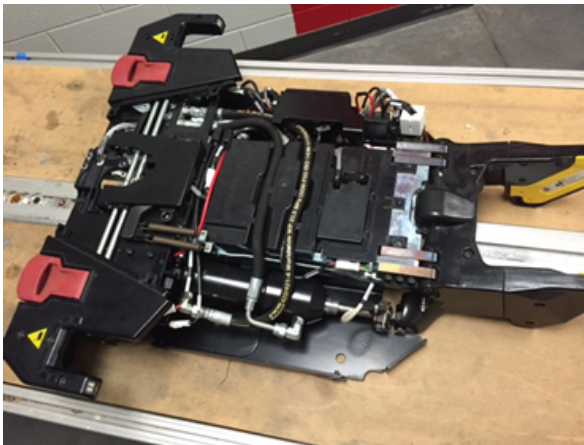

Figure 4:
- b. Remove the trolley and set aside for inspection (Figure 4 on page 2).
7. Remove the trolley top and side covers (Figure 4 on page 2).